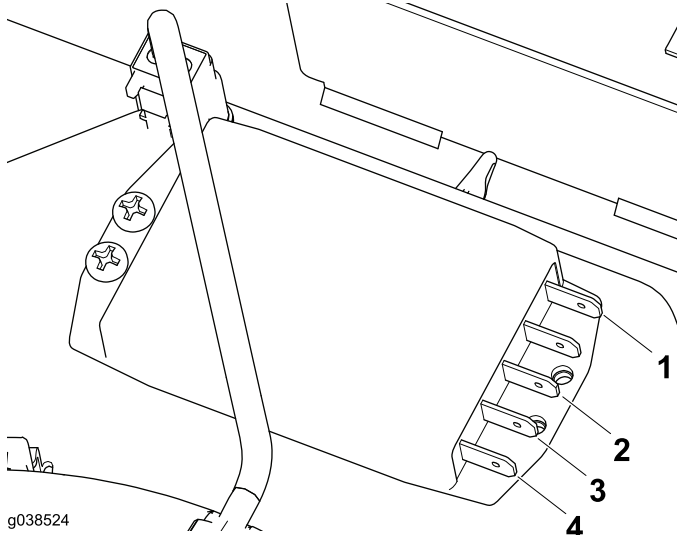

Figure 3
3. Connect the wire harness to the resistor pack (Figure 3).